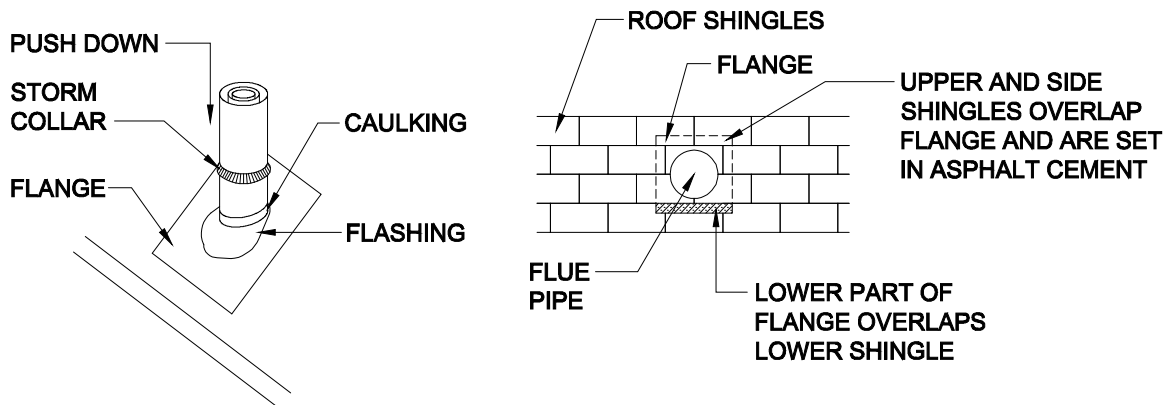

Figure 71. Roof flashing and shingle installation around chimney
5. **Complete shingles.** Cut shingles in successive courses to fit around the pipe and embed them in asphalt cement where they overlap the flashing. Secure shingles with roofing nails through flashing and apply asphalt cement over nail heads. The completed installation should appear as shown in **Figure 71**, with the lower part of the flange overlapping the lower shingles and the side and upper shingles overlapping the flange.